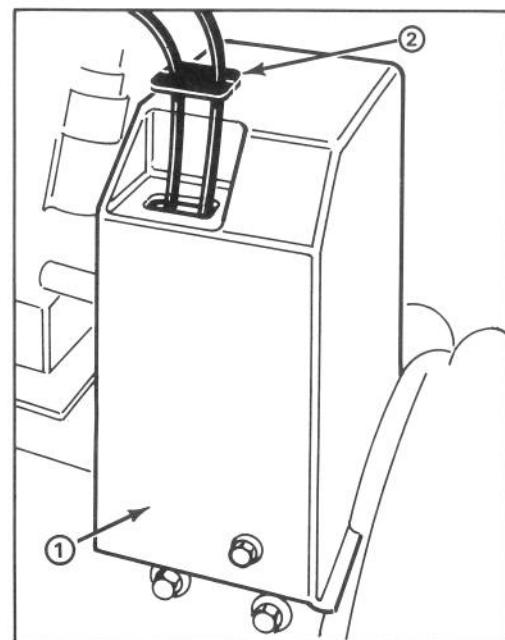

Figure 3
8. Mount upper belt cover to engine frame with (3) 1-1/4-20×1-1/2" lg. flange head capscrews (Fig. 3).